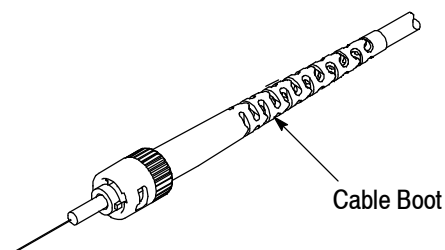

Figure 13
- f. Slide the cable boot over the crimp sleeve to complete the connector assembly. See Figure 13.